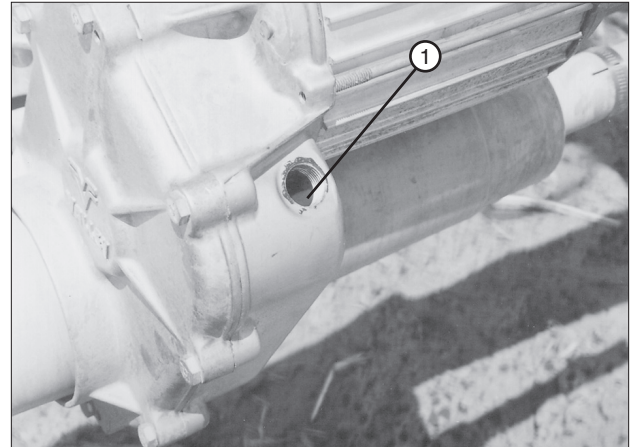

Figure 93-2 1. Bottom Of Fill Plug Hole
2. Fill the gearbox 1-7/8 in (48 mm) from the bottom of fill plug hole with Valley Gear Lube. The capacity of the gearbox is approximately 44 oz (1.3 liter). See figure 93-2.